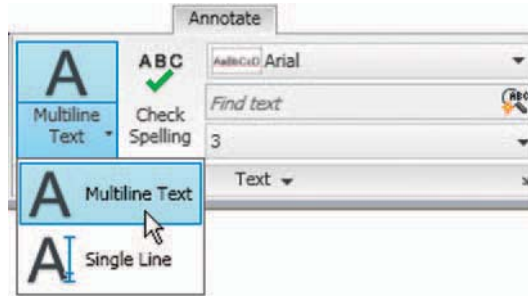

Fig. 6.22 Selecting **Multiline Text...** from the **Home/Annotation** panel
2. Either *left-click* on the **Multiline Text** tool icon in the **Home/Annotation** panel (Fig. 6.22), or *click* on **Multiline Text...** in the **Draw** toolbar, or *enter t* at the command line: